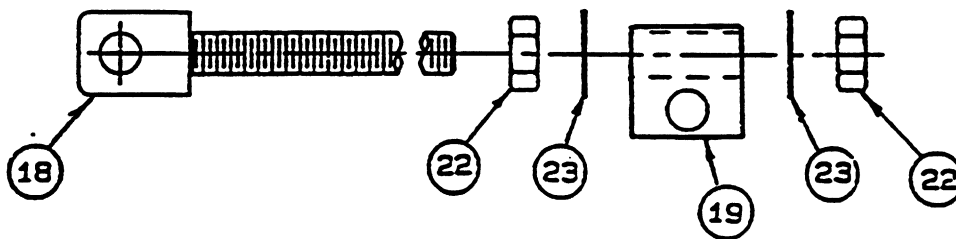

FIGURE 2.1-4
- 4) Place the azimuth tube over the end hole in the canister plate and attach with 1/2-13 x 1.00" bolt, flatwasher and lockwasher. Rotate positioner where the hole in the azimuth rod and the hole in the tab on the side of the positioner are lined up. Attach the azimuth rod to the positioner using a 1/2-13 x 1.50" long bolt, flatwasher, spacer .385" long, flatwasher, lockwasher and nut. Reference Figure 2.1-4. At this time tighten azimuth adjustment hardware.